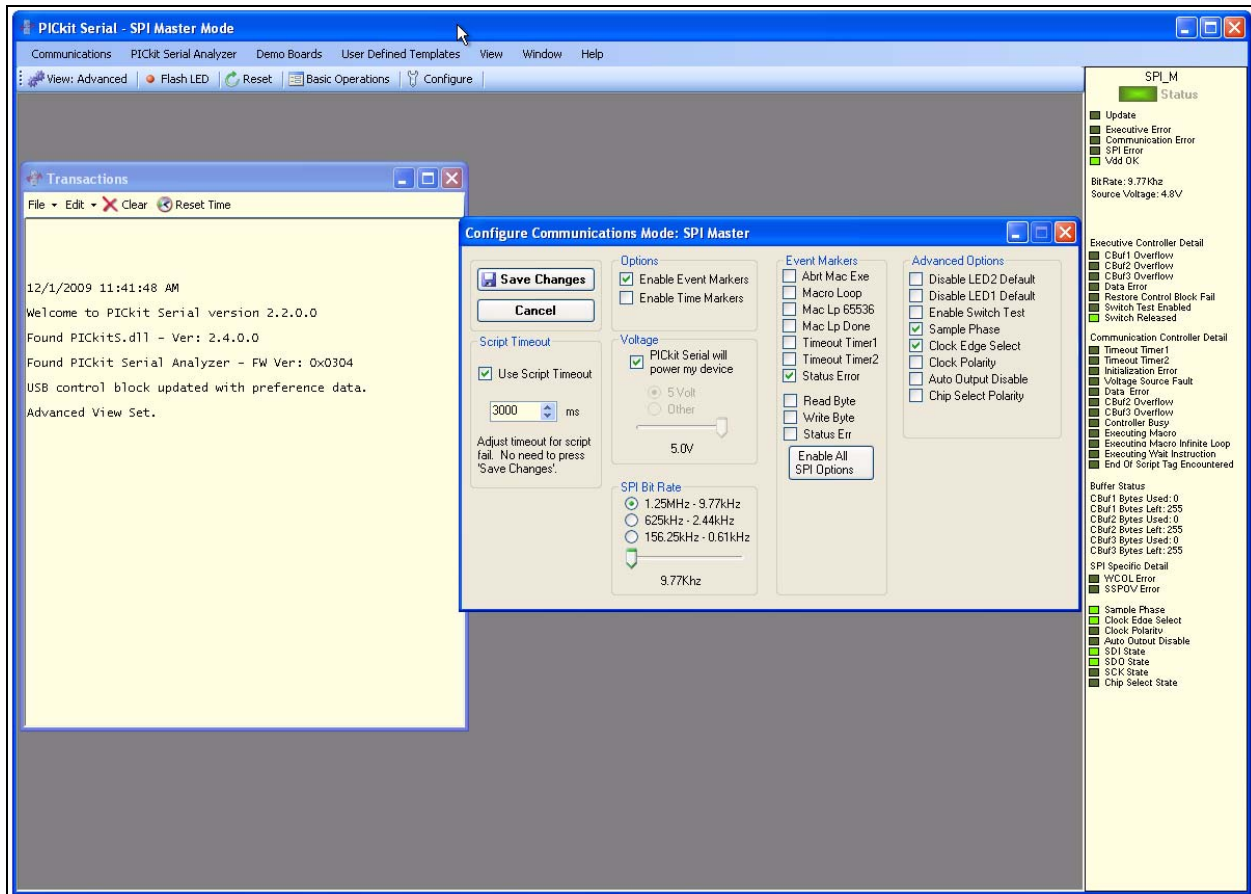

FIGURE 2-7: PICKit Serial Configure Communications Mode Window.
Figure 2-7 shows the Configure Communications Mode window. Ensure that your window options and settings are the same as this window, and then select the “Save Changes” button. The “Configure Communications Mode” window may now be closed.
6. Ensure that the Master SPI configuration is appropriately configured (see Figure 2-7).